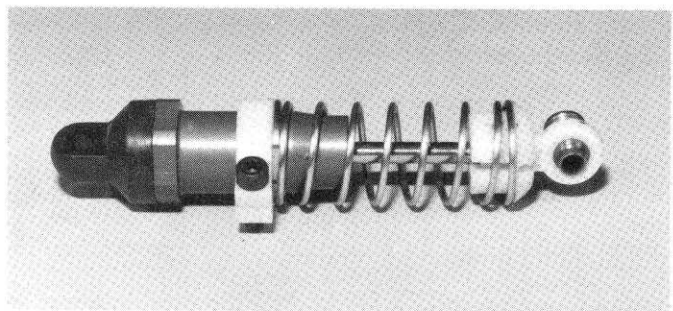

Fig. 106
□ **Fig. 106** On the front shocks, install the spring collars, as shown. Use the short green spring, which is softer than the short gold spring. Again, you can experiment with springs, but start with the green spring. Install the spring cups that go inside the springs, as shown, and then install the plastic ball end. Your shocks are now complete.